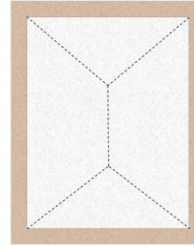

Figure 1: Cut
- Cut the Sisalation® SureWrap™ Wall over the window or door opening as shown in Figure 1: Cut